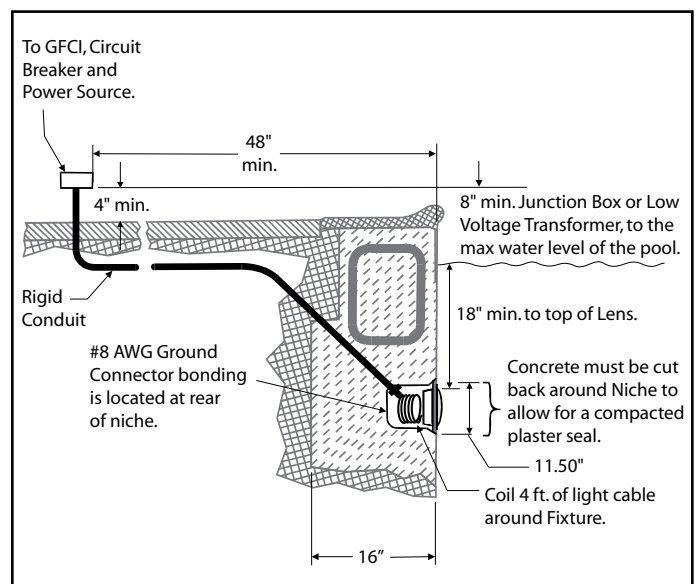

Figure 1. Jandy Pro Series Digital Color Light Installation
NOTE The electrician must complete preparatory steps before light fixture is installed. See Figure 1.
2. The junction box (or, for 12 volt models, the low voltage transformer) must be located at least eight (8) inches above water level, at least four (4) inches above ground level, and at least four (4) feet from the edge of the pool. See Figure 1.
3. The light fixture and all metal items within five (5) feet of the pool must be properly electrically bonded to a reliable point of grounding.
4. The wet niche must be properly installed so that the top edge of the underwater light's lens is at least 18 inches below the surface of the water in the pool. See Figure 1.
5. The wet niche must be properly electrically bonded and grounded via the No. 8 AWG ground connector located at the rear of the niche. See Figure 1.
1. Feed cord through conduit to junction box, leaving at least four (4) feet of cord at the light fixture to coil into the base of the light niche, see Figure 1. The four (4) feet of cord allows the light to be serviced after the pool is filled with water.
2. Cut the cord at the junction box, leaving at least six (6) inches of cord to make connections.
3. Strip six (6) inches of the outer cord jacket to expose the three insulated wires. *Be careful not to damage the insulation on the three (3) inner wires.*
4. Install strain relief over cord jacket and connect all three (3) wires to the corresponding circuit wires in the junction box. Install the junction box cover.
2. The junction box (or, for 12 volt models, the low voltage transformer) must be located at least eight (8) inches above water level, at least four (4) inches above ground level or pool deck level, and at least 48 inches from the edge of the pool or spa. See Figure 1.
- The wet niche must be properly electrically bonded and grounded via the No. 8 AWG ground connector located at the rear of the niche. See Figure 1.
- Leave at least four (4) feet of cord to coil around the light fixture or coiled into the base of the light niche, see Figure 1. This allows the light to be serviced after the pool is filled with water.
- Cut the cord at the Junction Box, leaving at least six (6) inches of cord to make connections.
- Strip six (6) inches of the outer cord jacket from the cord to expose the three insulated wires. *Be careful not to damage the insulation on the three (3) inner wires.*